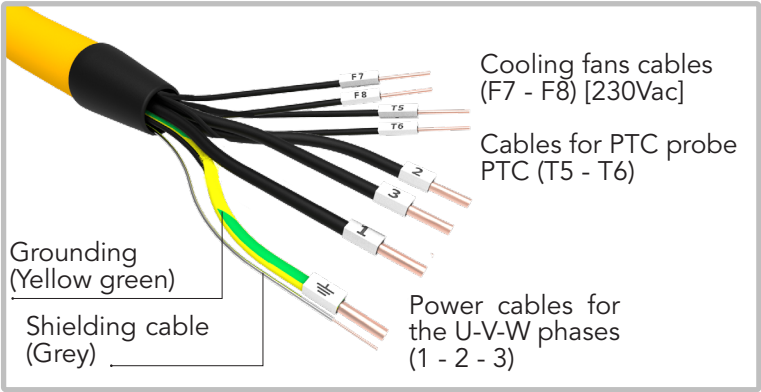

Fig. 14
- Cable for the power supply of the motor [1 - 2 - 3, Ground, SC] (Fig. 14), for the power supply of the cooling fan (230 Vac) [F7-F8] and of the PTC [T5-T6] (Fig. 14).